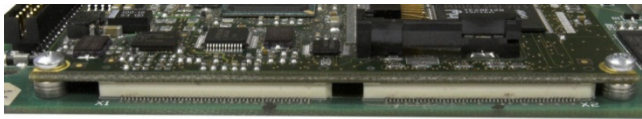

Figure 4-60: ETX Board Connectors Fully Seated
4. Check to ensure that all connectors are fully seated, as shown in Figure 4-60.